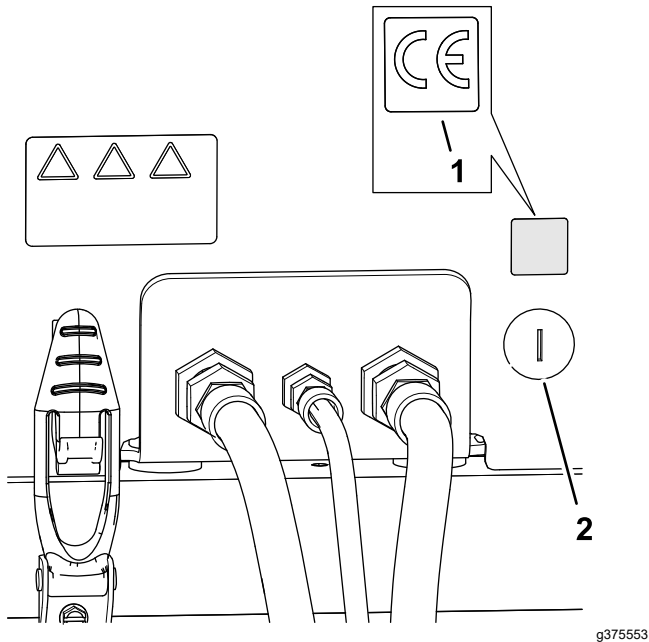

Figure 37
1. Use rubbing alcohol and a clean rag to clean the area of the hood next to the hood lock, and allow the hood to dry. (Figure 37).